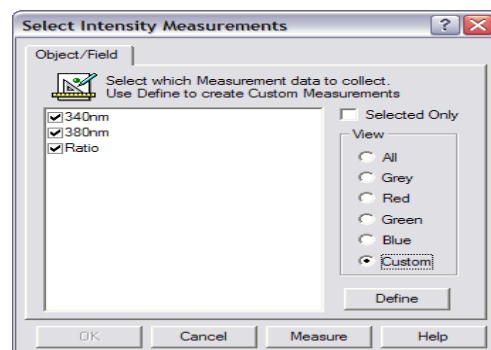

fig.3
6. Select the created custom Measurements. Check **Custom** > check the custom measurements (fig.3)